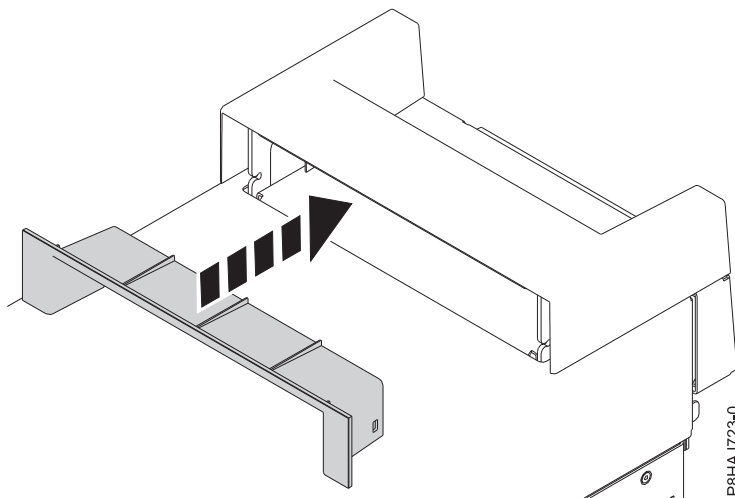

Figure 19. Inserting the piece within the handle cover on an 8286-41A stand-alone system
2. Insert the piece within the handle cover by pushing it firmly into the handle cover as shown in Figure 19.